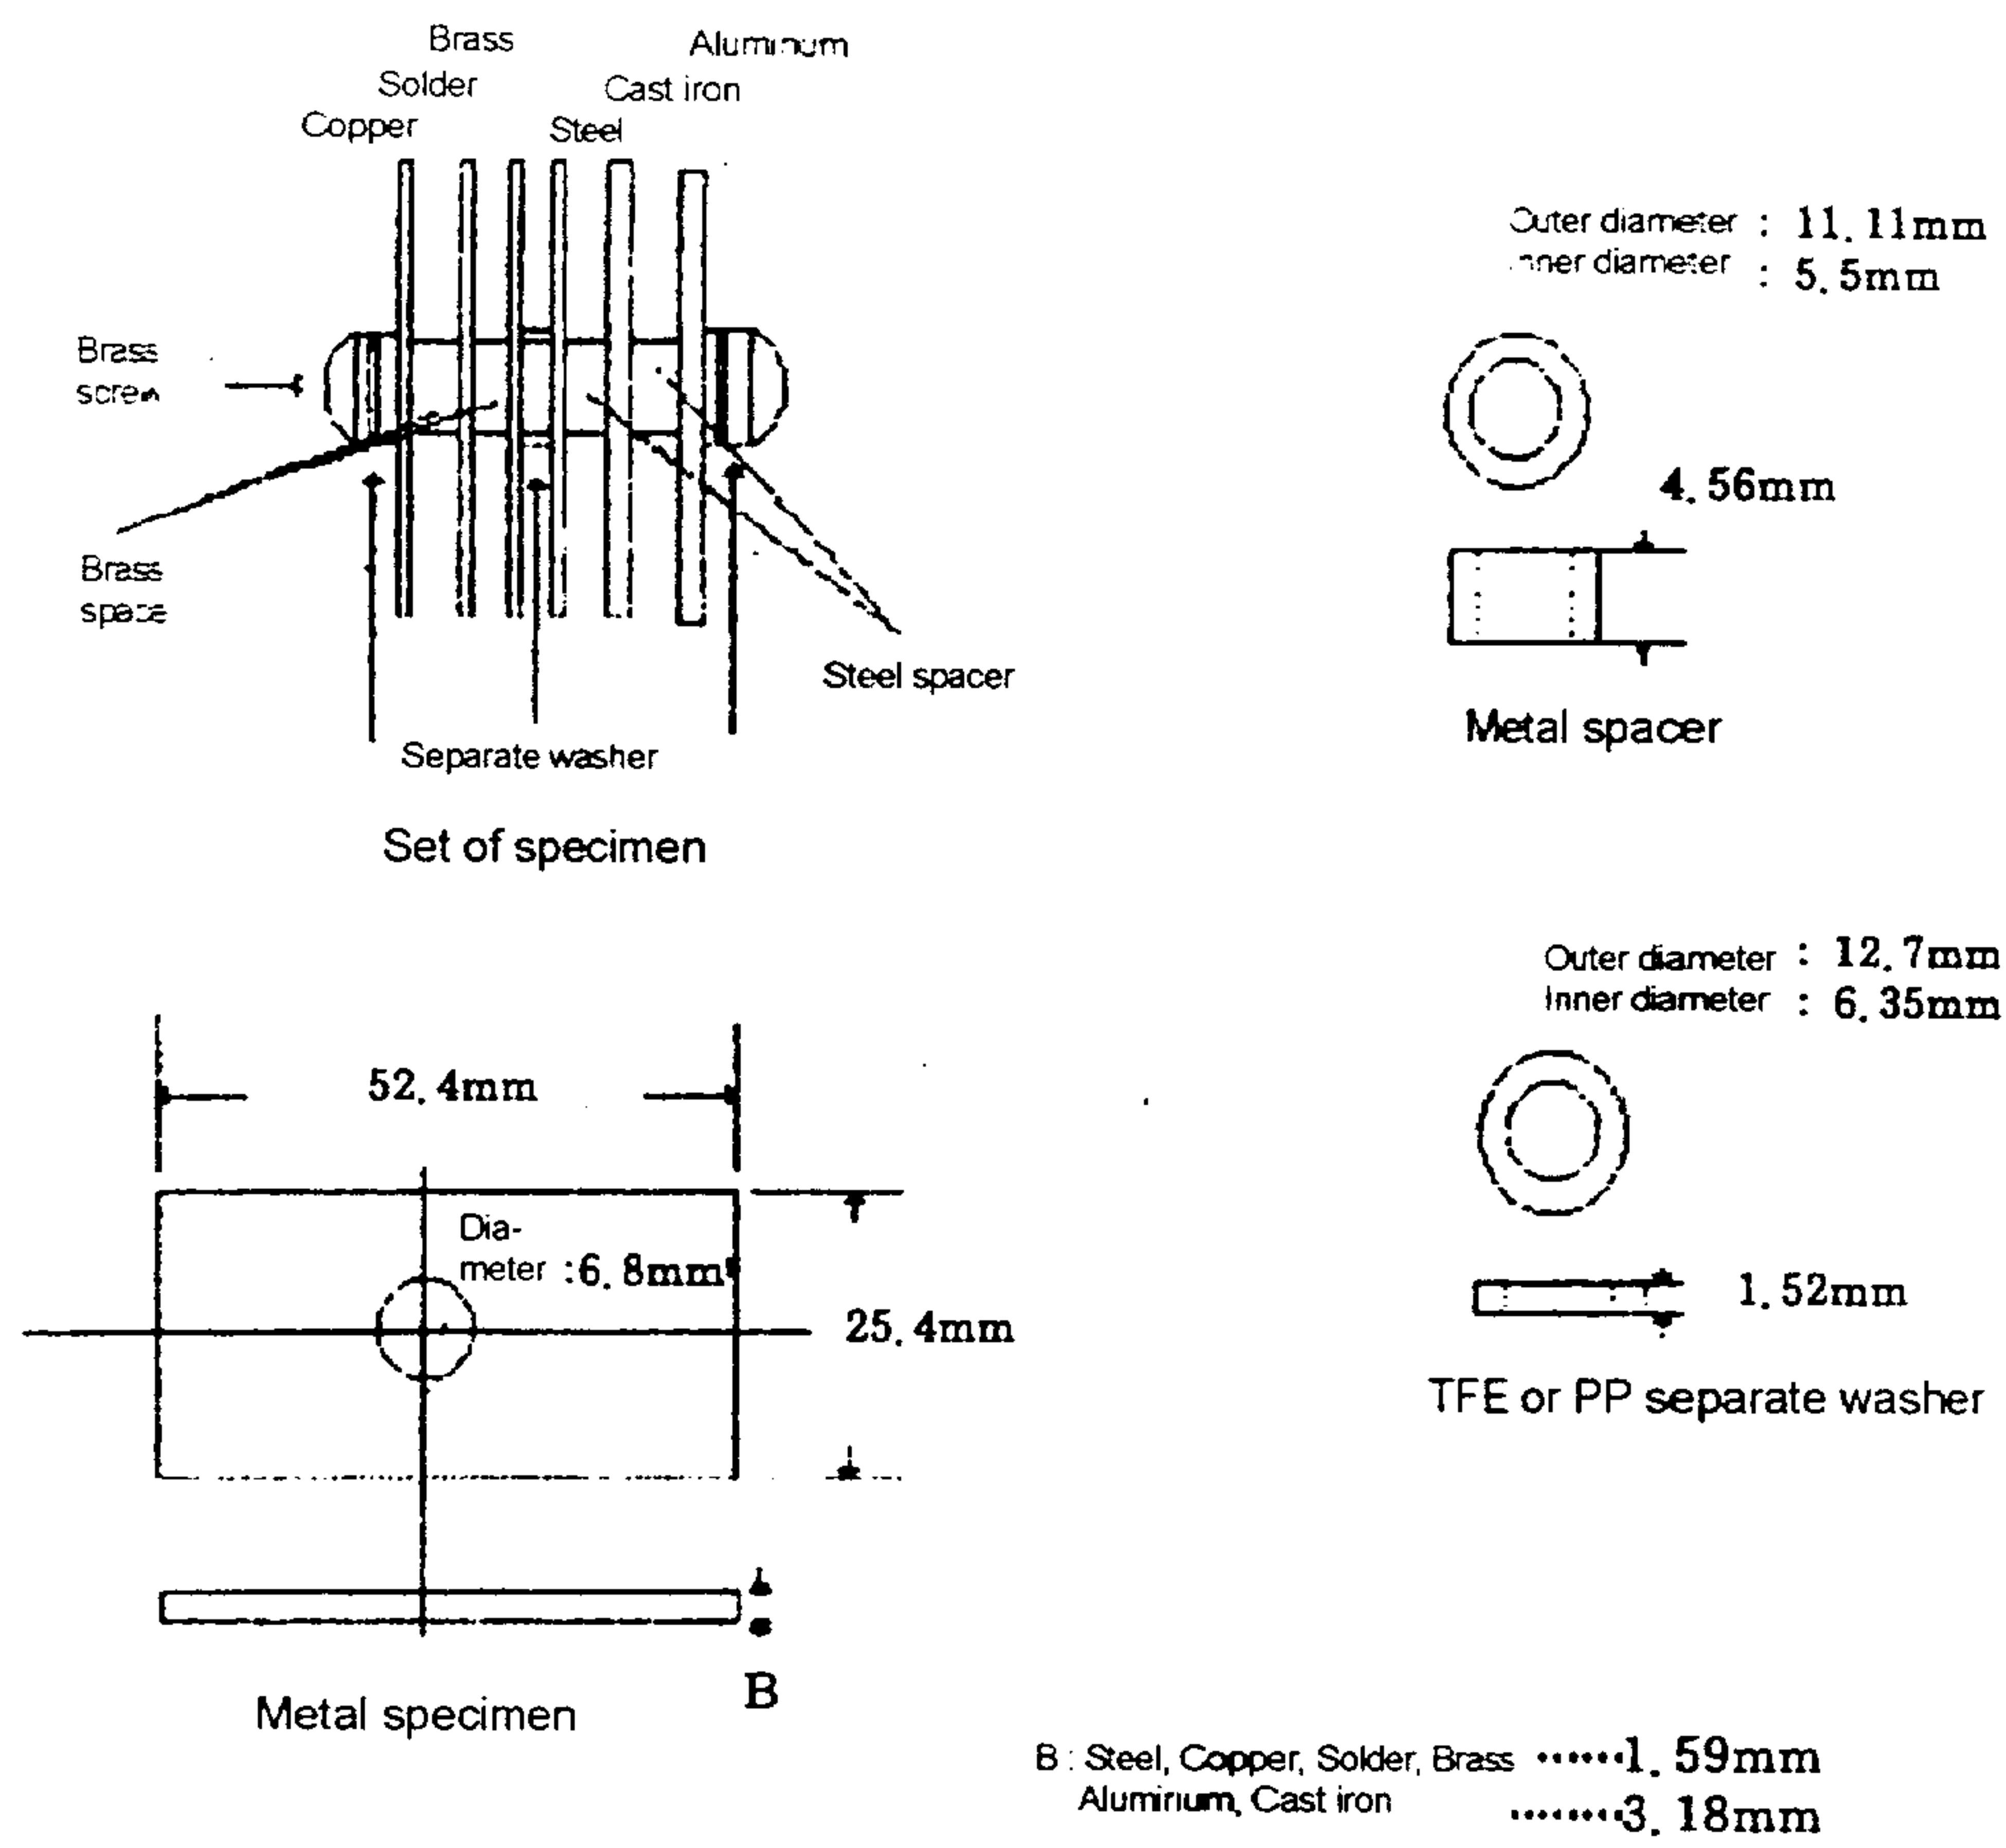
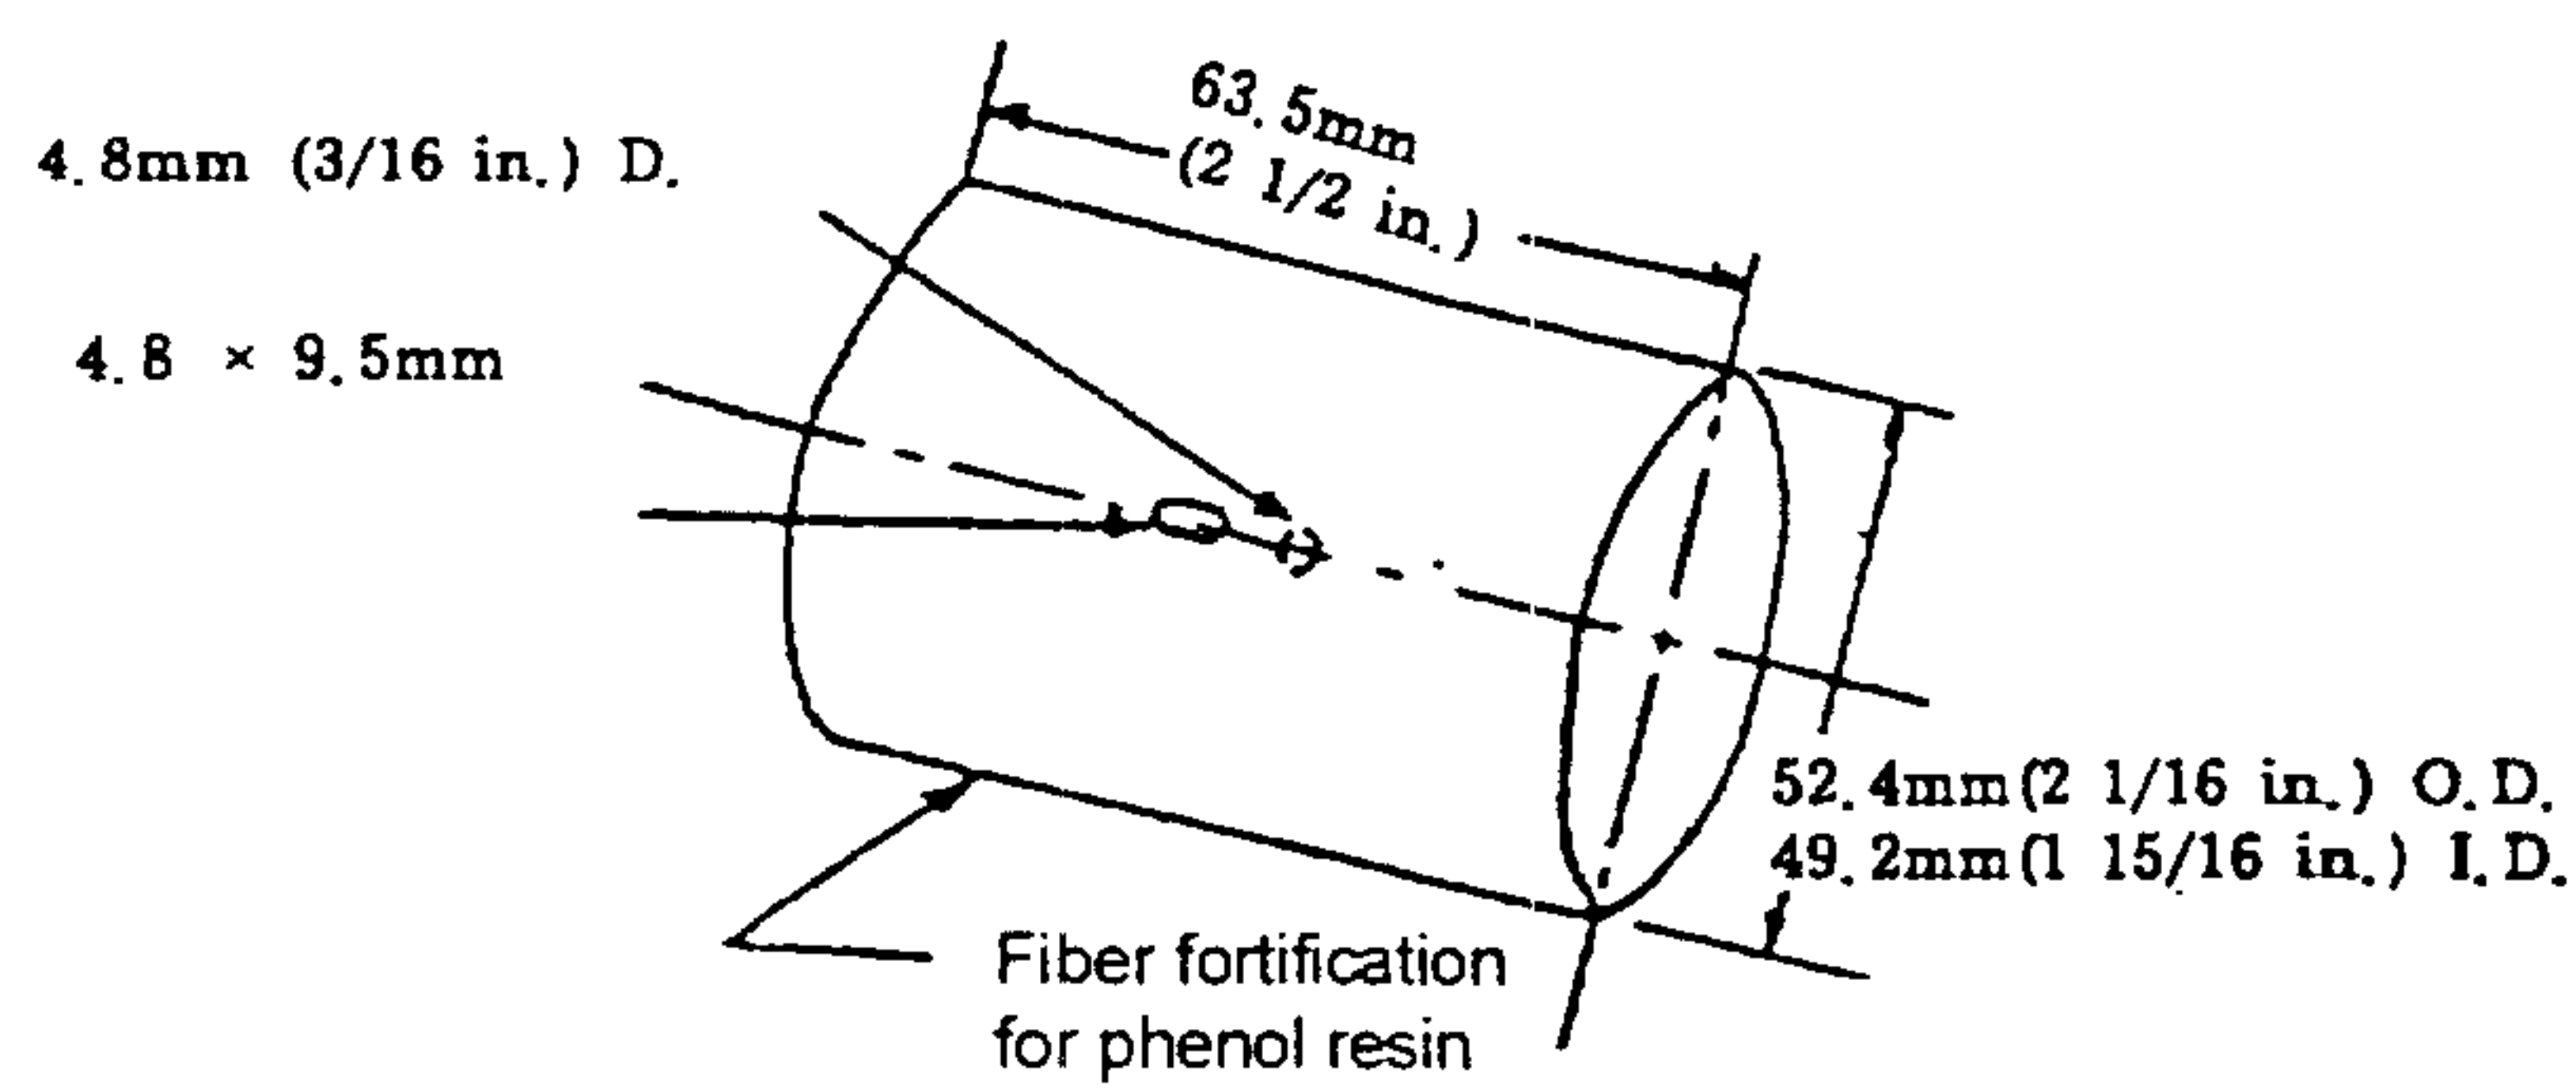
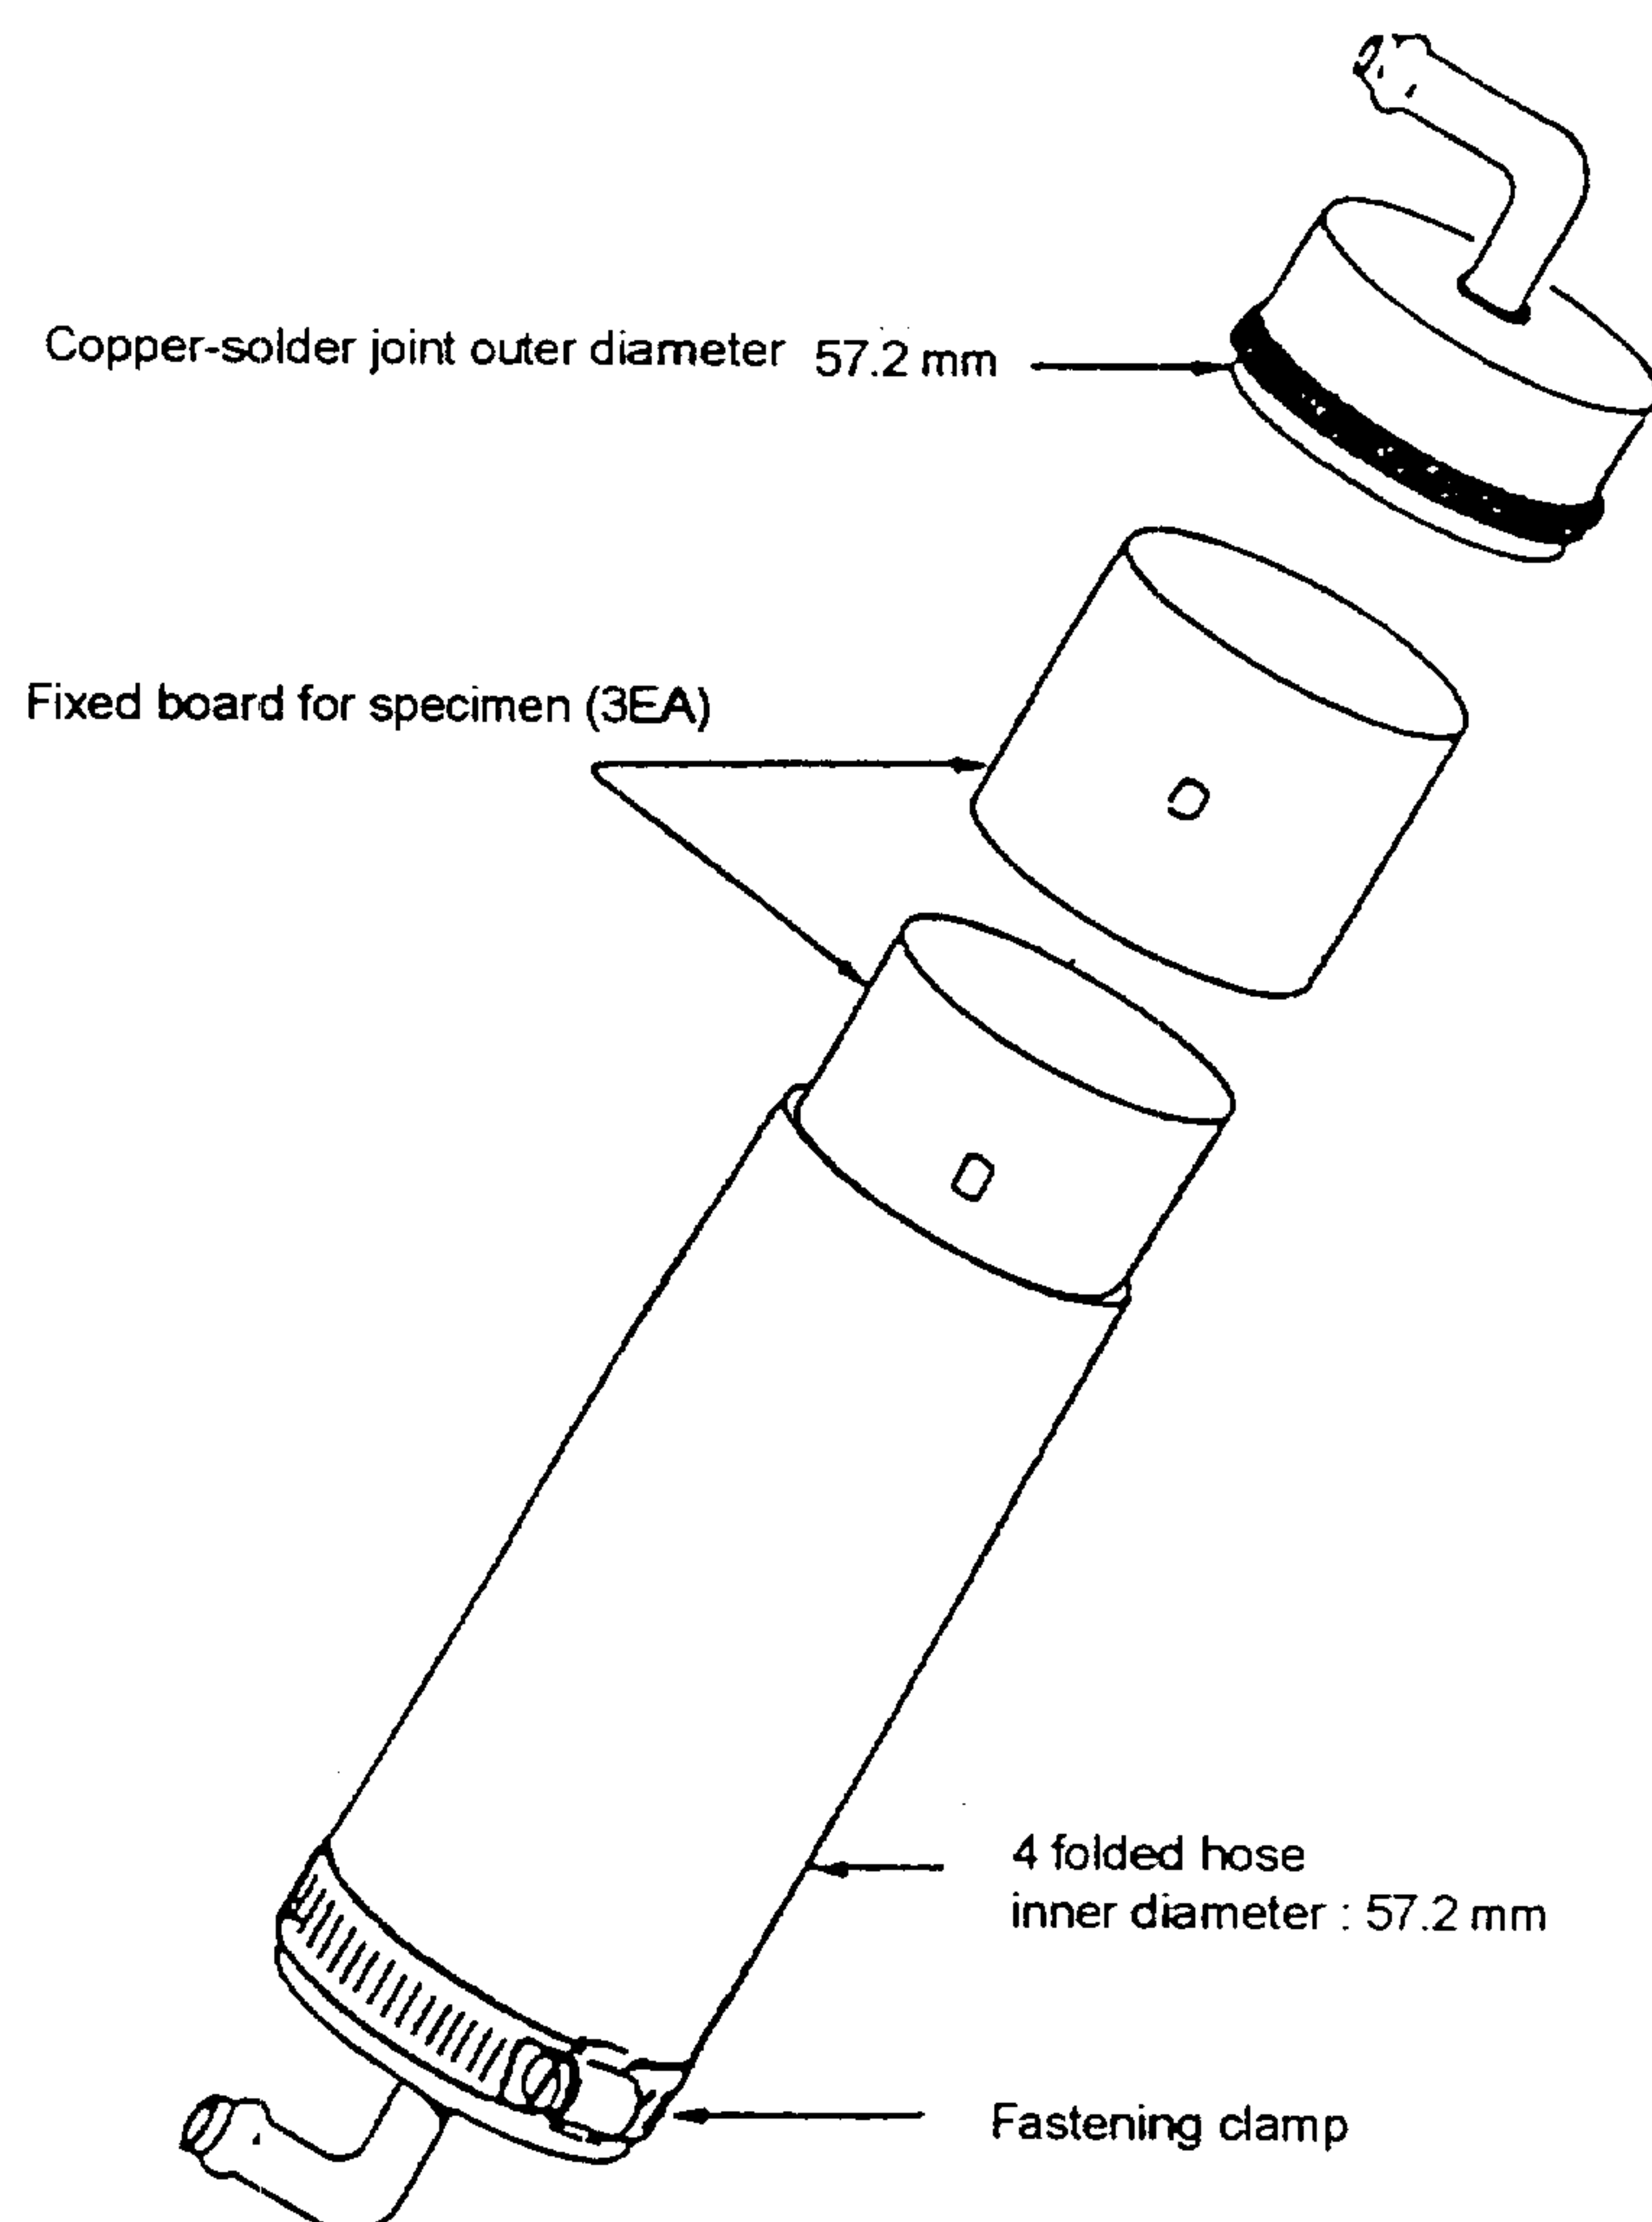
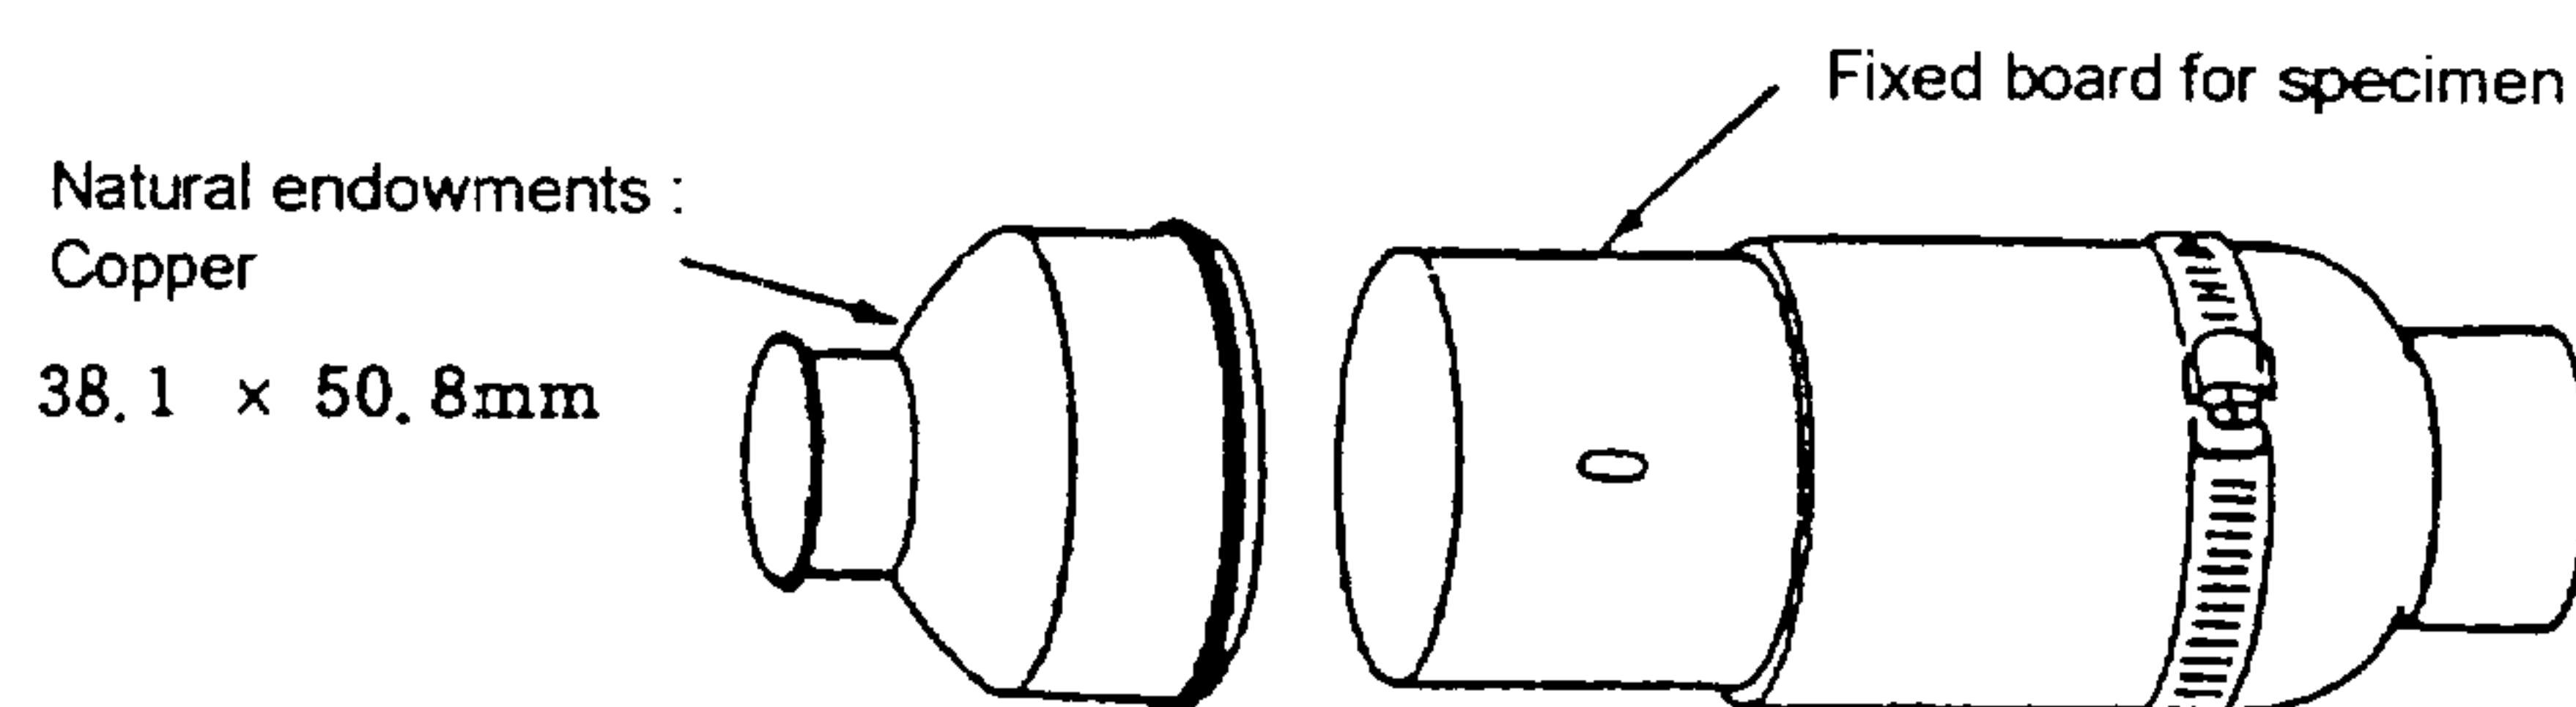

Figure 1 Humus specimen
Figure 2 Fixed board for specimen
Figure 3 By-pass testing capsule
Figure 4 Upper specimen capsule.
4.2 Standard, cleansing, measuring weight of specimens follows ASTM D 1384.(Reference figure 1). Each set of the specimens is to be equipped like figure 2 in fiber fortification phenol tube. Such test set and tube is equipped in cooler with being put in capsule. Two kinds of capsule is used- one is partial-flow capsule, which is equipped at the place where the gasoline circulation is not accomplished perfectly, and standard capsule.(Reference figure 3). Another is "full-Flow" type like figure 4 and selective. Partial-flow capsule is placed between pathway where heat is supplied and switched and consists of 2 or more specimen set. Full-flow capsule is installed at upper part of radiator and consists of 1 or more specimen set.